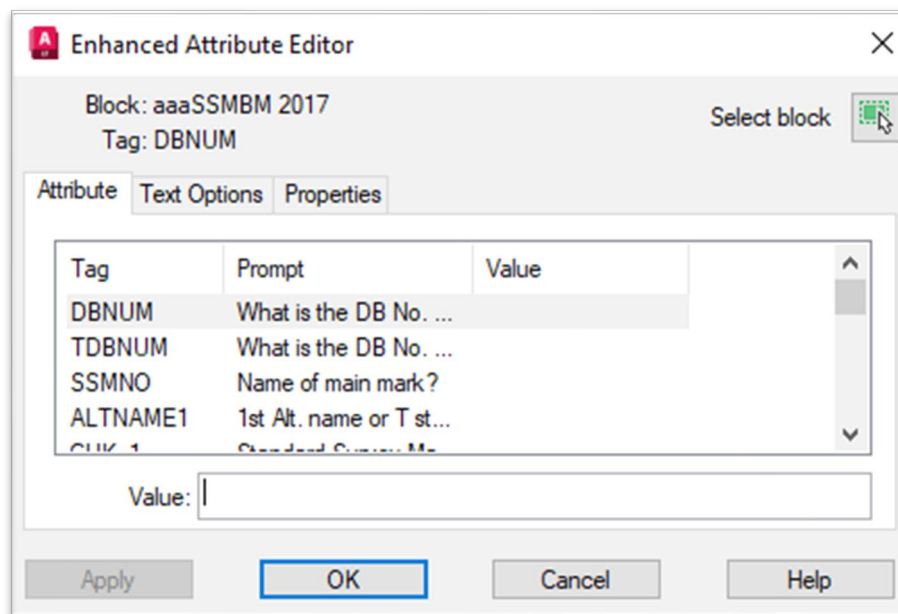

Figure 2 - Enhanced attribute editor
5.2.3 The attributes can also be edited by double clicking on the template in the model space. This will activate the window below (**Figure 2**). The font size can be altered under the <Text Options tab> to fit the name of the Primary Marks. Check specifications in Section 3.